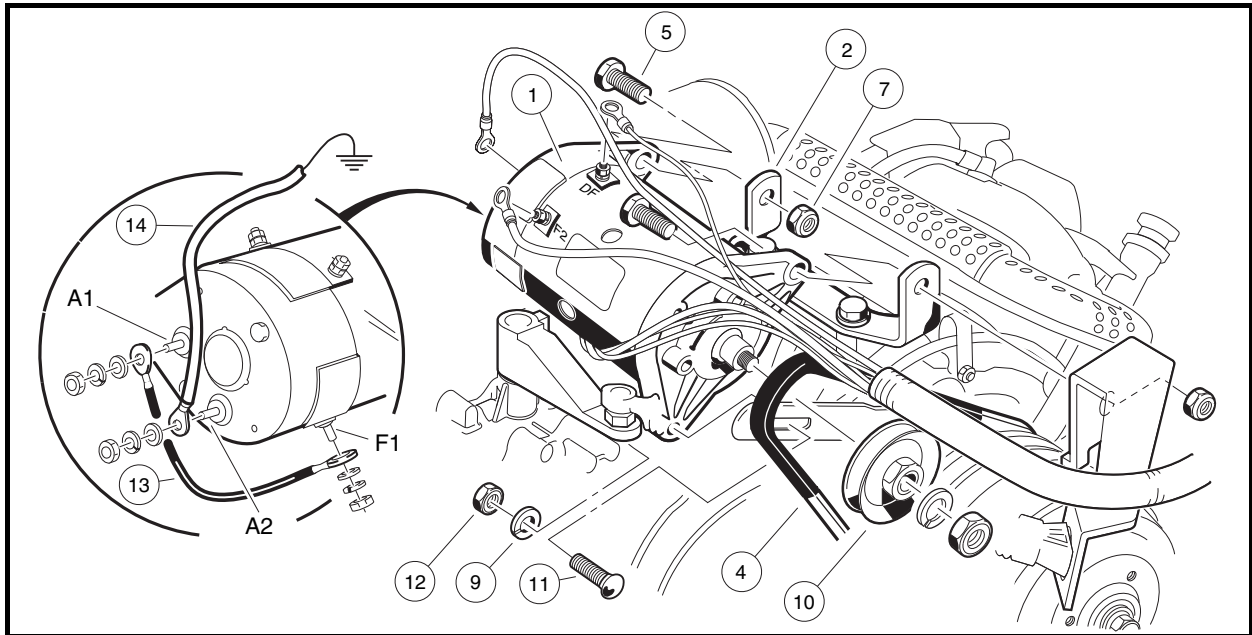

Figure 12-15 Starter/Generator Removal
3. Mark and disconnect the wires from the starter/generator (1). Loosen the two pivot nuts (7) and bolts (5) (Figure 12-15, Page 12-11).